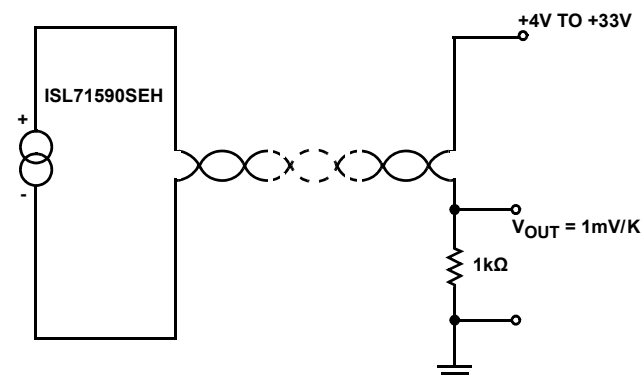

FIGURE 2A.
Connecting just a single ISL71590SEH and resistor as shown in Figure 2A provides the simplest single temperature sensing implementation. The resulting over-temperature output current is shown in Figure 2B illustrating the $1\mu\text{A}/\text{Kelvin}$ (K) linear performance across the entire operating range of temperature.